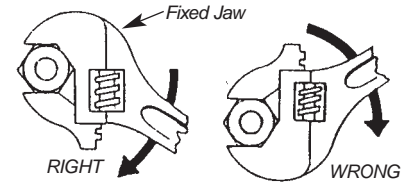

Figure 21.19
- Face the adjustable wrench forward and turn it so pressure is against the fixed jaw (Figure 21.19).